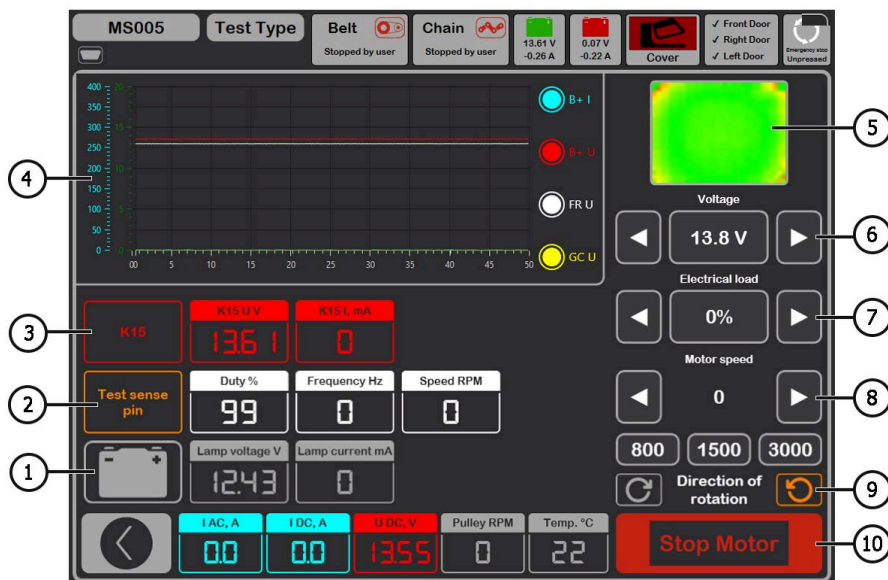

Figure 23. Alternator Test Mode Menu
During the diagnostic mode of any type of alternator, the following information may be displayed on the screen (see Figure 23):
4.2. If the alternator has a control lamp, the indicator of the control lamp should light up (see item 1 in Figure 23).
6.2*. Using the output voltage control buttons (see item 6 in Figure 23), smoothly adjust the alternator's output voltage within the range from minimum to maximum. The measured voltage should change proportionally.
7.3. Gradually increase the load on the alternator using the load control buttons (see item 7 in Figure 23) while keeping the output voltage constant, and the alternating current value in the B+ circuit "I, AC" should not exceed 10% of the set load value (for example, at a load of 50 A, the "I, AC" value should not exceed 5 A). Also, there should be no significant peaks observed on the current oscillogram, the values should fluctuate within consistent limits.